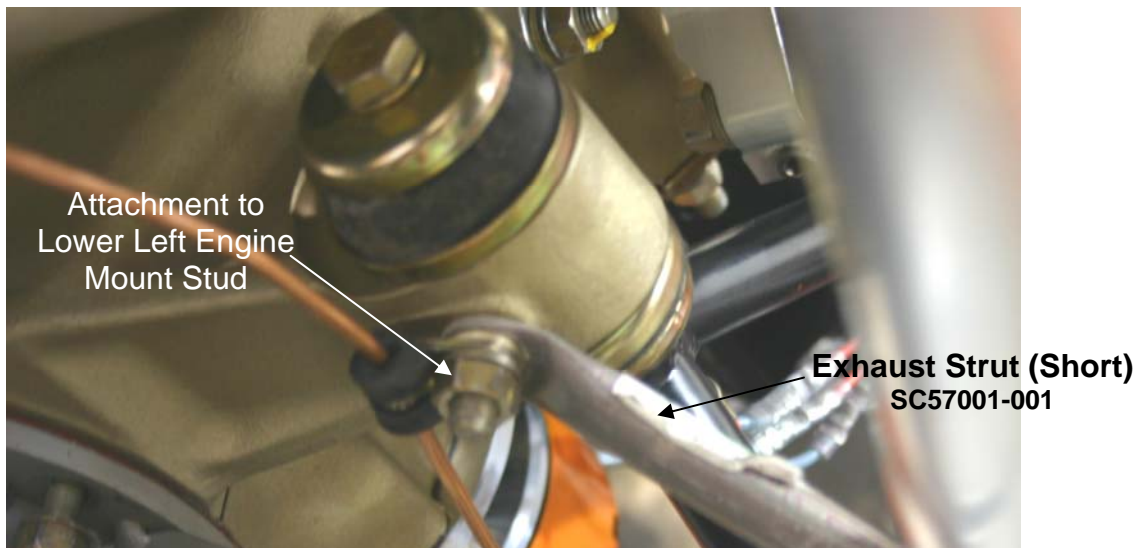

Figure 2 – Left Exhaust Strut Attachment to Engine Mount
4. Secure the bent end of the Exhaust Strut (SC57001-001) to the lower left Engine Mount stud using the existing engine mount hardware. (See Figure 2)